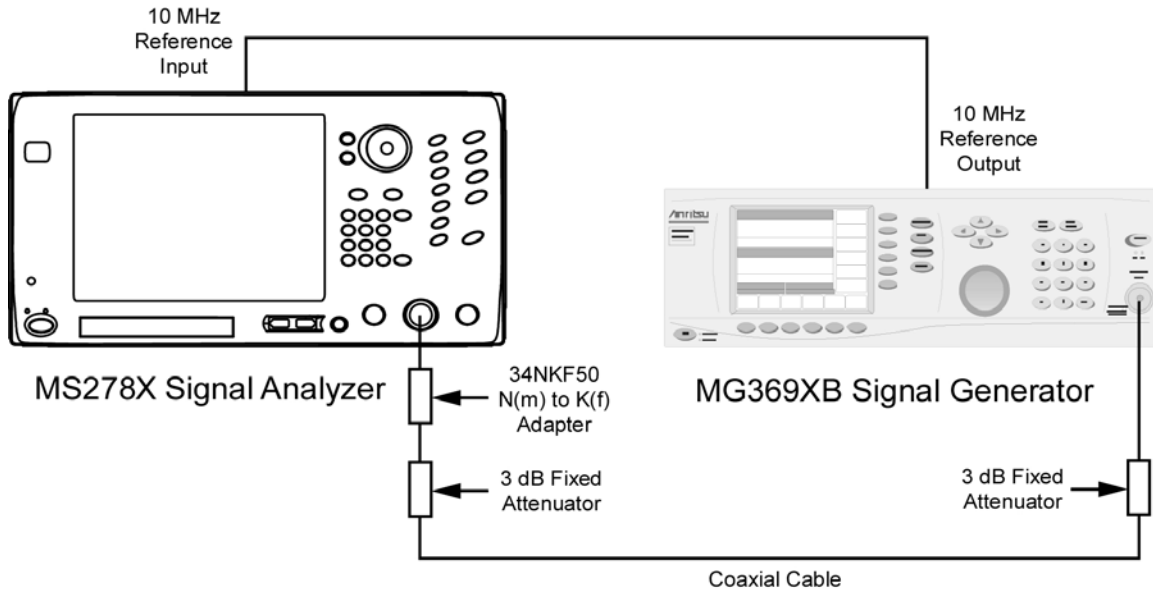

Figure 5-50. Equipment Setup for Frequency Span Accuracy Test
1. Set up the instruments as shown in Figure 5-50.